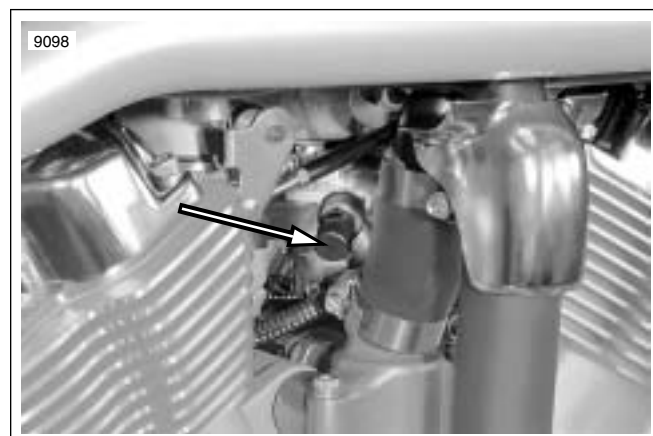

Figure 4-43. Schrader Valve Location (typical)
5. See Figure 4-43. Remove protective cap from Schrader valve in fuel metering assembly.